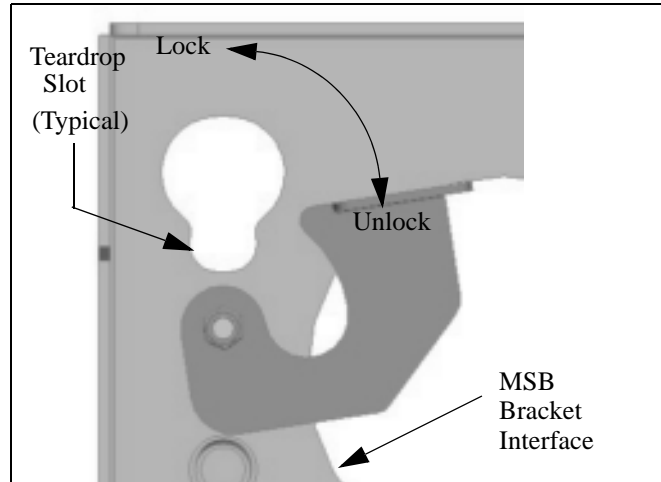

Figure 6: Locking Device
1. Make sure power is not supplied (turned off) to the display and the locking device is in the unlocked (down) position (See figure 6) before attempting to mount the display.
4. Secure the mounting bracket to the PDR by completely engaging the locking device (See figure 6).
2. Release the locking device (See figure 6).